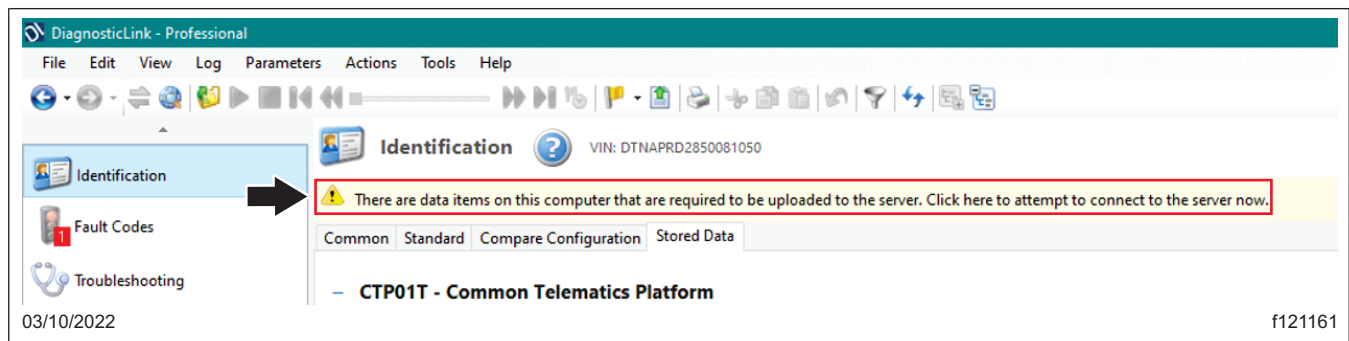
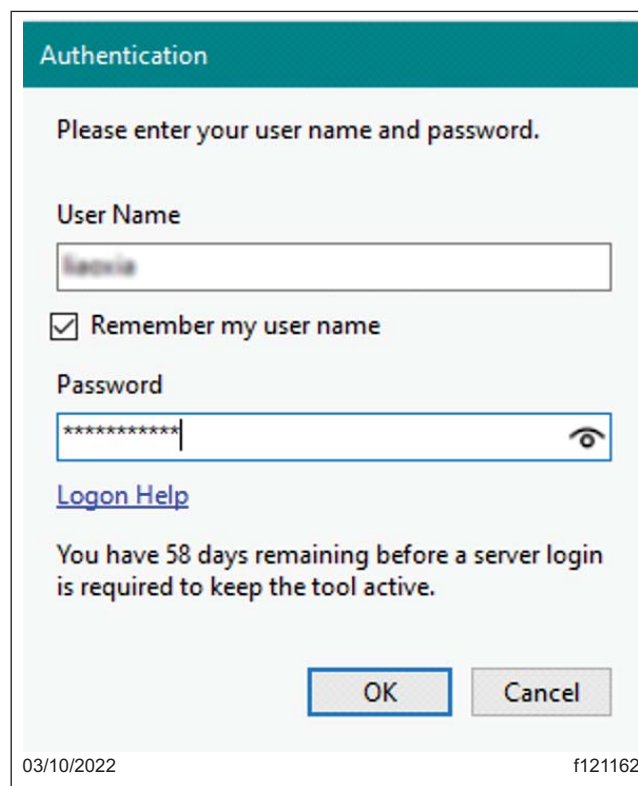

Fig. 40, Message to Upload Data to the Server
Fig. 41, DTNA Connect Authentication Window
20. DiagnosticLink should now display a yellow ribbon message 'There are data items on this computer that are required to be uploaded to the server.' See Fig. 40. To upload the vehicle data to the server, select the message to connect to the server. When prompted, log in to DTNACONNECT using your DTNACONNECT credentials, then select 'OK.' See Fig. 41.